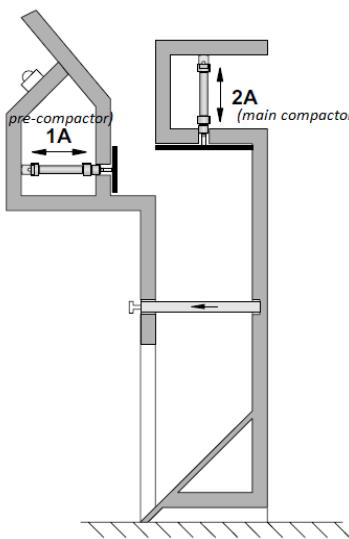
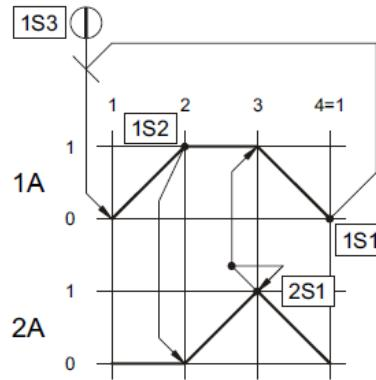

Figure 2
Figure 3
- (c) Develop a pneumatic circuit diagram according to the following description. The prototype of the pneumatic domestic rubbish compactor (under table model) as shown in Figure 2 is operated with a maximum working pressure of $P = 3 \text{ bar} = 300 \text{ kPa}$. It is equipped with a pre-compactor (1A) including glass crusher as well as a main compactor (2A), which exerts a maximum force of $F = 2200 \text{ N}$. When a start button is pressed, the pre-compactor will advance, then will be followed by the main compactor. The subsequent return stroke of both double-acting cylinders takes place simultaneously. The return stroke of both cylinders are initiated by an end sensor which is located at the end of cylinder 2A OR pressure sequence valve, which is set to switch on at $P = 2.8 \text{ bar} = 280 \text{ kPa}$, as shown in Figure 3.